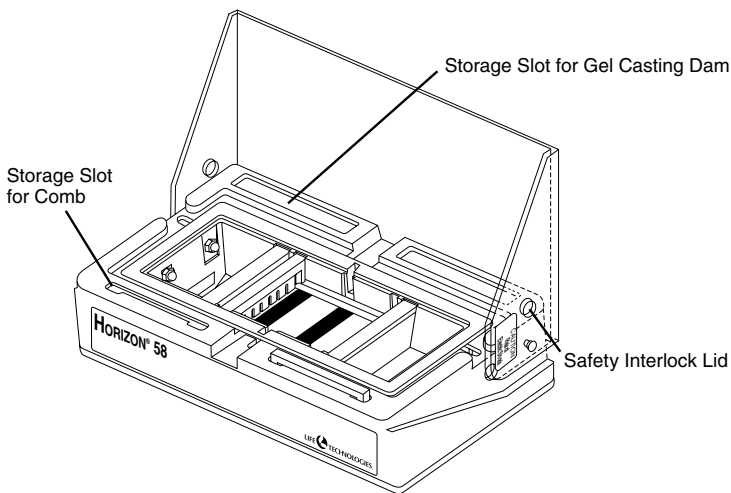

Figure 2. Tray Support Stand.
- **Tray Support Stand** (figure 2). The acrylonitrile butadiene styrene (ABS) plastic tray support stand features a clear acrylic safety interlock lid and storage facilities for the combs and gel casting dams.